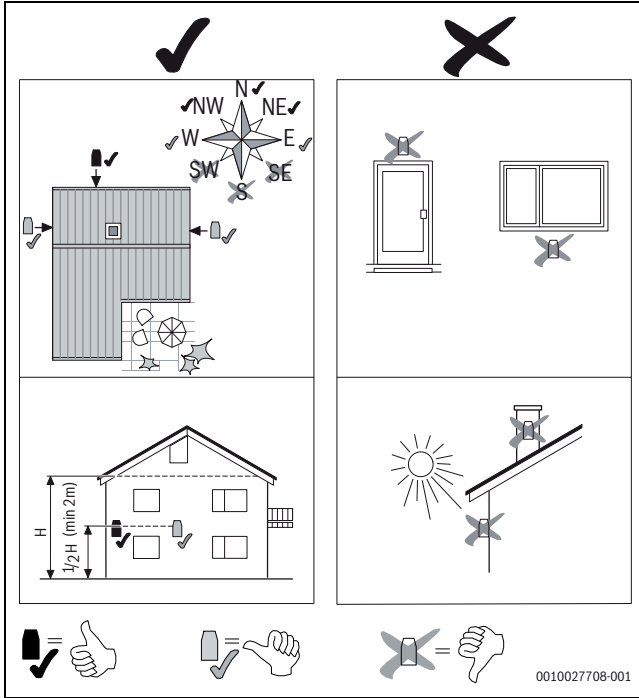
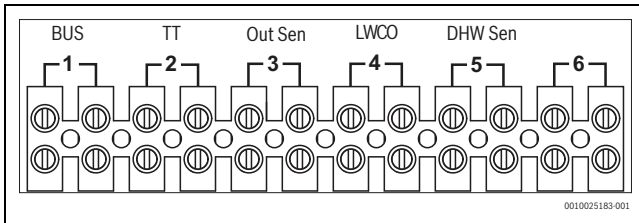

Fig. 49 Outdoor reset sensor optimum positioning indicated by black tick
Fig. 50 Connect Outdoor sensor to "Out Sen" number 3
- ▶ Ensure Outdoor sensor is installed according to → Fig. 49 and connected as indicated in → Fig. 50 if no outdoor sensor is detected/ fitted the error code CC will be shown.